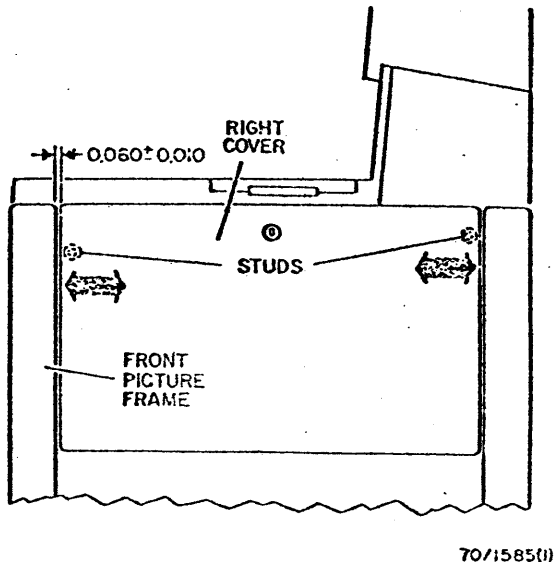

Fig. 3-231. Right Cover Adjustment
2. Adjust cover to seat in clips while maintaining parallel clearance of 0.060 ± 0.010 to front picture frame (Fig. 3-231).